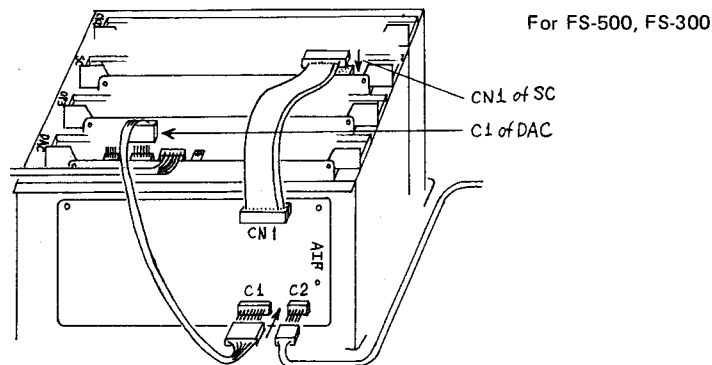

Fig. 6
13. Using the 40 pin flat cable assembly, (ribbed side up, polarity marking on the right when viewed from back of organ) connect to socket CN1 of the AIF circuit board, and to socket CN1 of the "SC" circuit board (see figure 6 or 7).
14. Using the 10 pin connector cable assembly (supplied in the installation kit), connect to plug C1 of the AIF circuit board and to socket C1 of the DAC circuit board (see figure 6 or 7).
16. Using the 5 pin connector cable assembly, connect to plug C2 of the AIF circuit board. Leave the other end free. This will be connected in step 18A or 18B later (see figure 6 or 7).